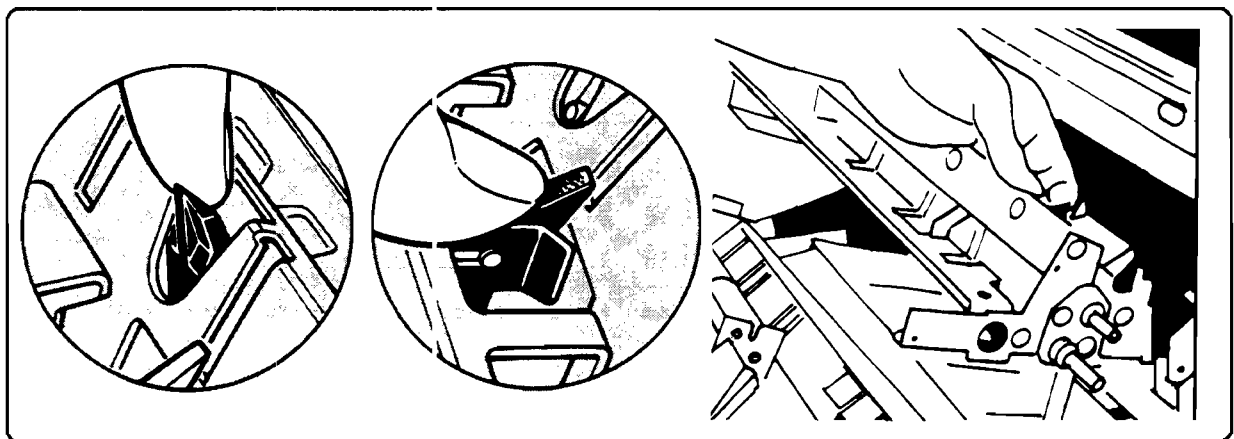

Figure 13. Cleaning the Separation Claws
2. Use your fingernail or a flat blade tool such as a small screwdriver to scrape any toner residue off the claws as shown in Figure 13. Be sure to clean all of the claws. There are two rows: an outer row of five black claws, and an inner row of four brown claws.